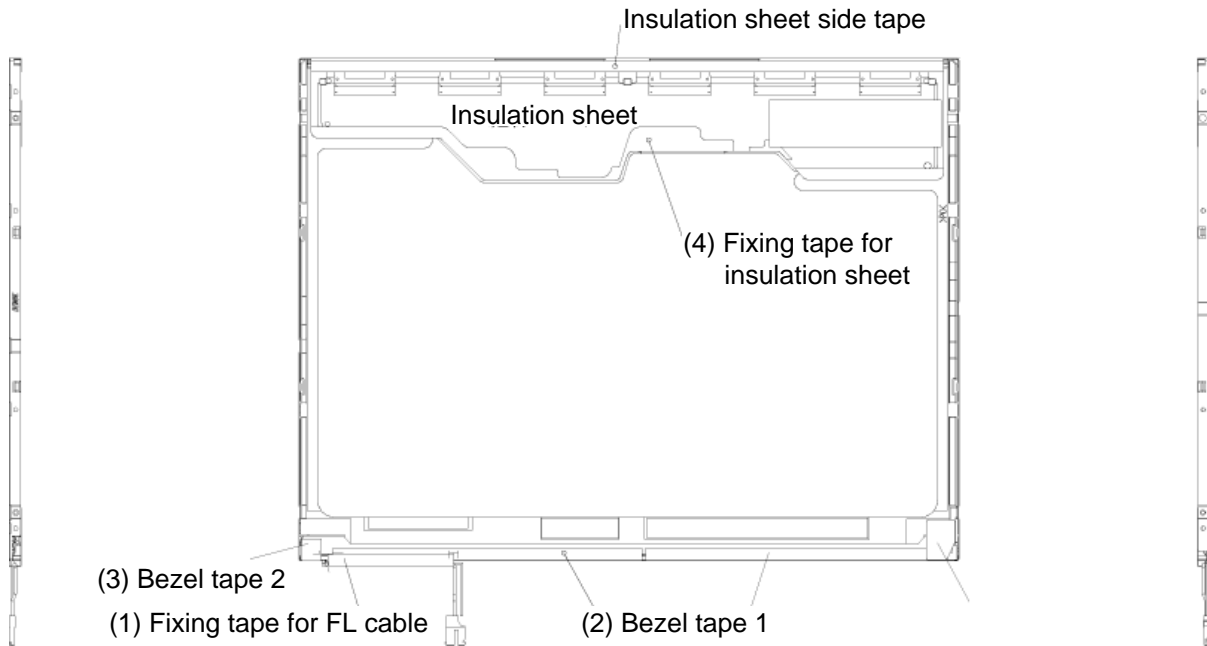

Figure 4-53 Replacing 14.1 Inch TMD fluorescent lamp (SXGA+) (1)
To disassemble the 14.1-inch SXGA+ TMD fluorescent lamp, follow the steps below and refer to Figure 4-53 to 4-63.
2. In the order (1), (2), (3), (4) shown in Figure 4-53, remove the tape for fixing the FL cable, bezel tape1, bezel tape2 and fixing tape for insulation sheet. (Do not remove the insulation sheet side tape.)
- CAUTION:** (1) Be careful not to damage the TAB, PCB and B/L reflection sheet.